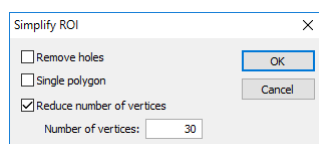

Figure 247 – Simplify ROI dialog
2. Click the **Simplify...** button. The **Simplify ROI** dialog is then displayed (see Figure 247).